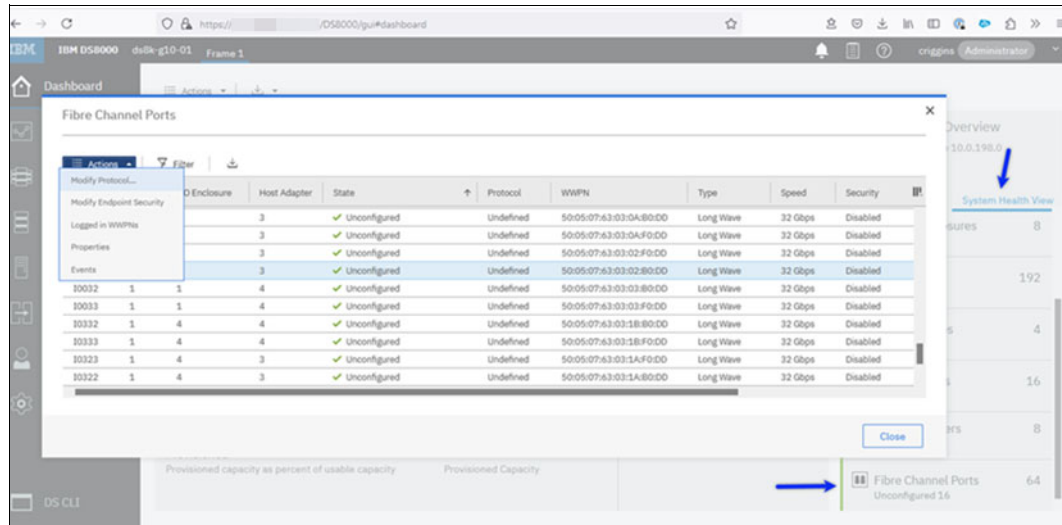

Figure 9-10 Modifying the FC port protocol from the System Health overview
- ▶ You can also configure the port topology from the System view or from the System Health overview, as shown in Figure 9-10 on page 229.